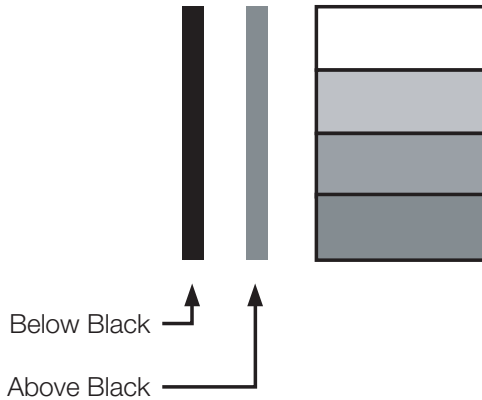

**Figure 4-5. Typical PLUGE Pattern for Adjusting Brightness**
**Brightness:** On your external test pattern source, select a PLUGE pattern. (PLUGE is an acronym for "Picture Line-Up Generation Equipment.") Figure 4-5 shows a typical PLUGE pattern.